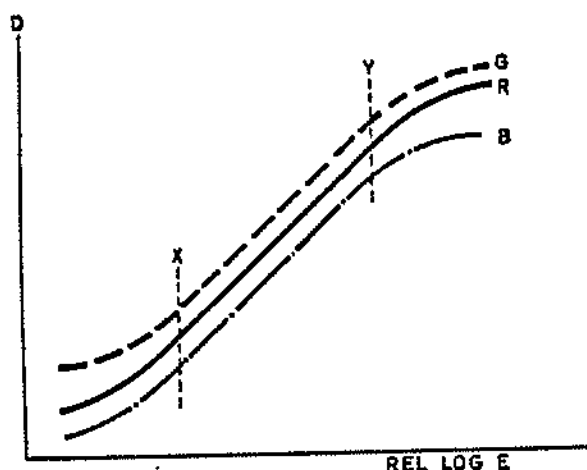

FIGURE 1.5.3
1.5.4 Color Density Curves. The question of density in color films seems difficult to grasp at first but is only slightly more involved. As we have mentioned, color films have three dye layers. The dye layers work together to create color densities. By using red, green, or blue filters with a densitometer it is possible to measure color densities of the film layers. The cyan, magenta, and yellow color layers of a color film can be measured and plotted as three curves on a single graph. Refer to Figure 1.5.3.